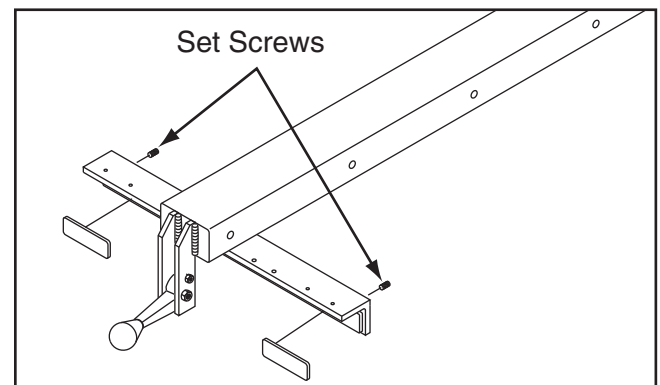

Figure 122. Location of set screws used to adjust fence parallelism and clamping pressure.
2. Remove the fence and equally adjust the set screws shown in **Figure 122** as necessary, then re-install the fence, lock it in place, and check the clamping pressure. Re-adjust as necessary until the fence will not move as pressure is applied against it.
6. Use trial-and-error to adjust the set screws (see **Figure 122**) so the fence is parallel with the blade and the clamping pressure is sufficient.